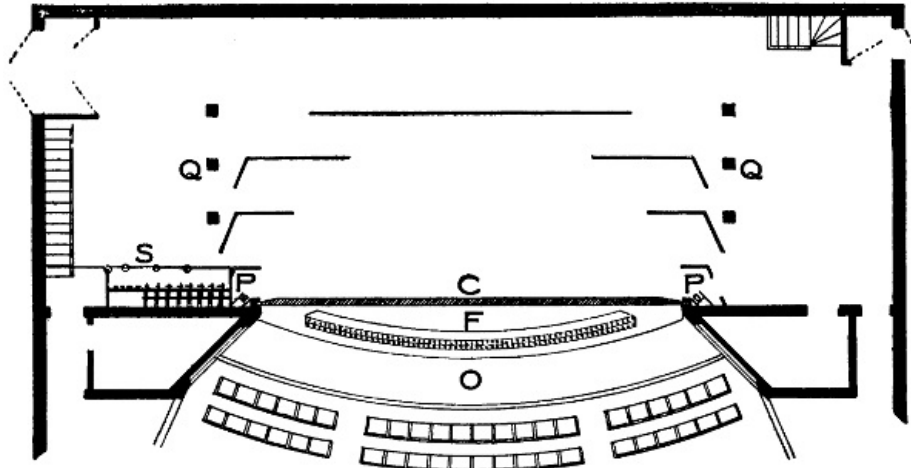

FIGURE 124.
*The Stage.*—Figure 124 is a floor plan of a typical stage, showing the orchestra pit *O*, foot lights *F*, steel curtain *C*, switchboard *S*, stage pockets *Q*, proscenium side lights *P*, and general arrangement of scenery. The foot lights are not always curved but it seems advantageous to arrange them in this way. The rows of seats are of necessity curved so as to face each patron squarely toward the stage. If then the stage and foot lights are curved in the same way, the actors will be able to come that much closer to the audience and can thus make themselves more easily heard. The curving of the foot lights will have the further advantage of illuminating the sides of an actor more than would be the case if they were laid out in a straight line.